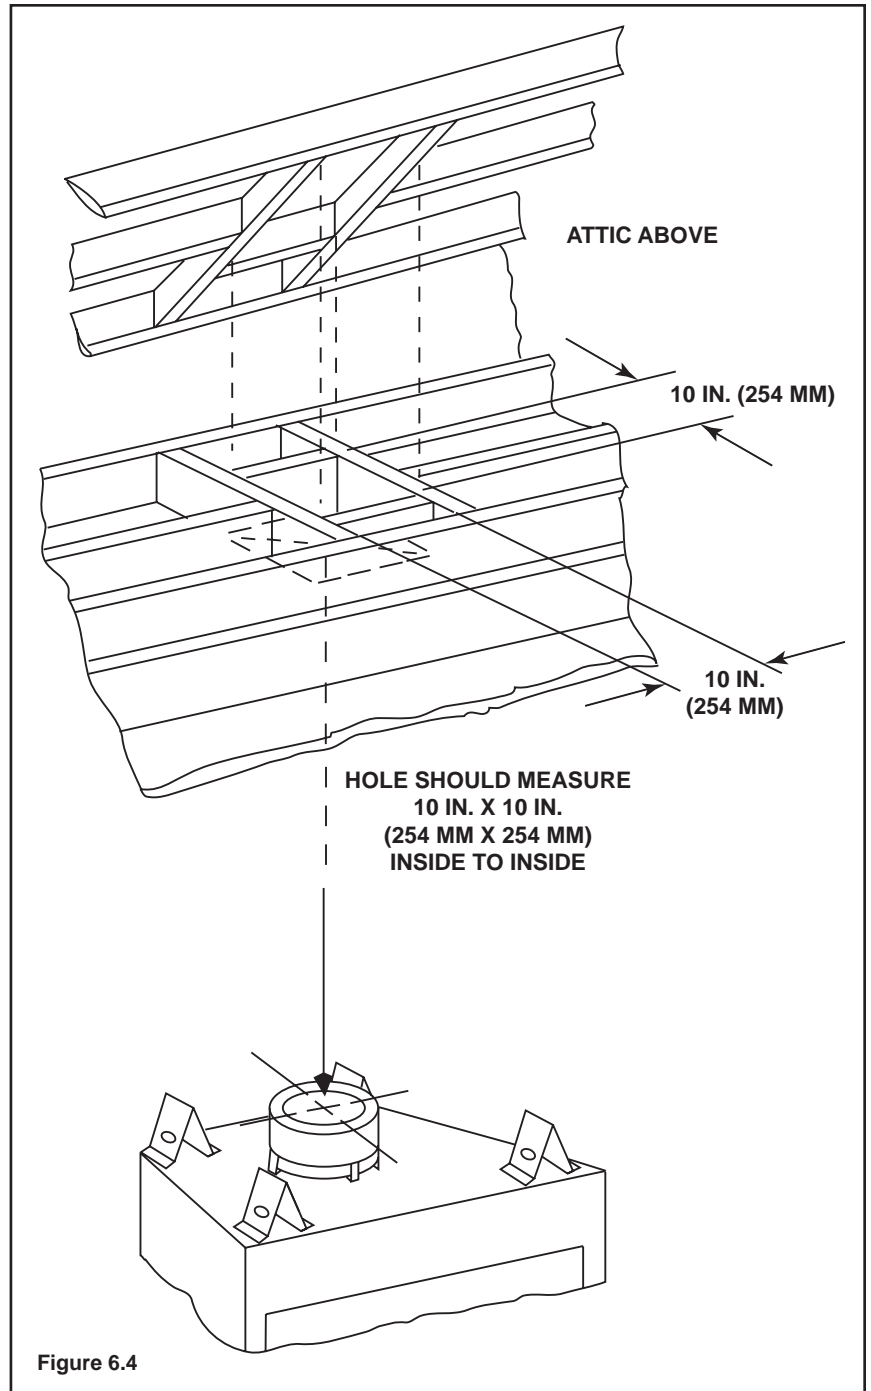

Figure 6.4
- Attach elbow heat shield to the exhaust pipe if combustible materials are not present at install (see Figure 6.4).
- Frame an opening 10 inches by 10 inches whenever the vent system penetrates a ceiling/floor (see Figure 6.4).